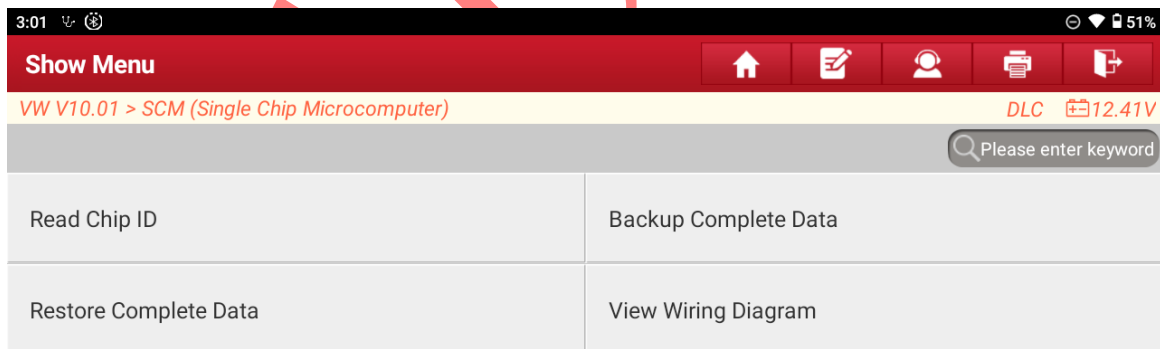

Figure 7
7. Choose [View Wiring diagram], as shown in Figure 7.